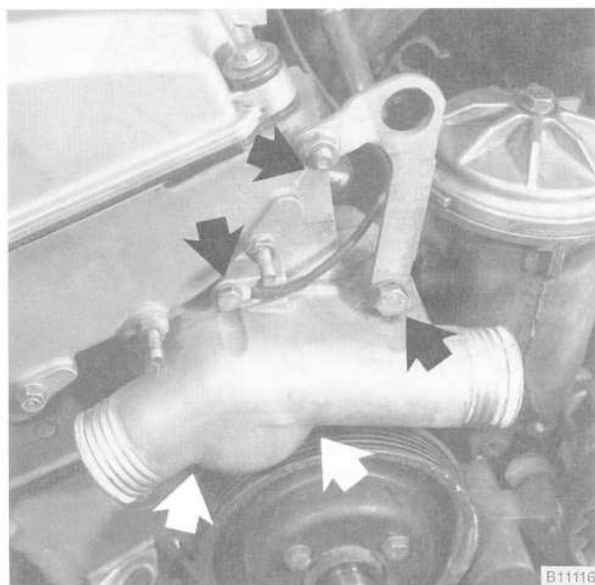

Fig. 2. Engine lifting bracket and thermostat housing mounting bolts (arrows).
5. Remove the two large coolant hoses from the thermostat housing. Remove the engine lifting bracket and the thermostat housing. See Fig. 2.